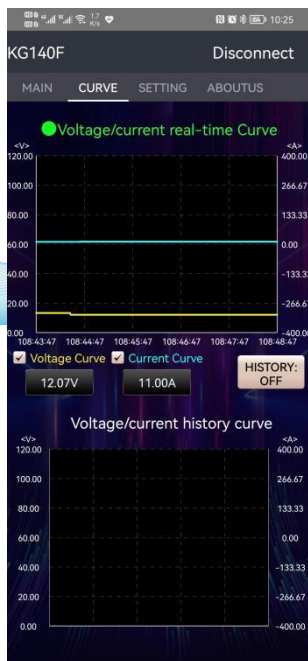

Figure 3-5-22
Voltage and current real-time curve: When the green circle icon appears before the text of the voltage and current real-time curve, and the text turns green, it means that the voltage and current real-time curve is selected, click the value displayed by the voltage and current, and the voltage or current real-time curve can be displayed separately. And the opening and closing of the voltage and current real-time curve is associated with the output state and the data recording switch of the main interface. Only when the output state and the data recording switch are turned on (ON), the voltage and current real-time curve recording will be turned on. The real-time curve of voltage and current is shown in Figure 3-5-22 below.